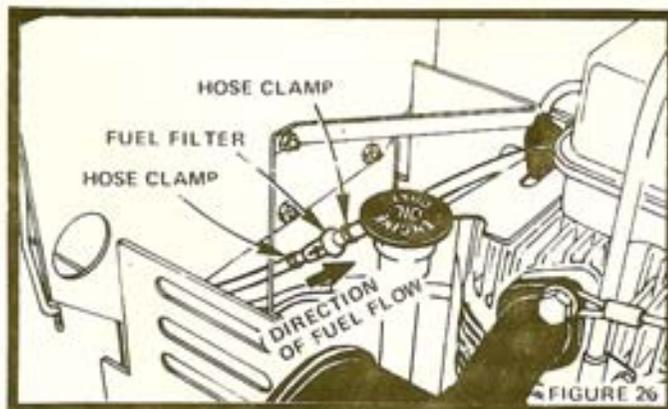

FIGURE 26
- Check Pressure Relief Valve located on R.H. side near top (Fig. 26). It should spring completely closed when pulled out by hand.
- With Engine cool, remove and plug Fuel Line Sections as removed from both ends of Fuel Filter (Fig. 26).